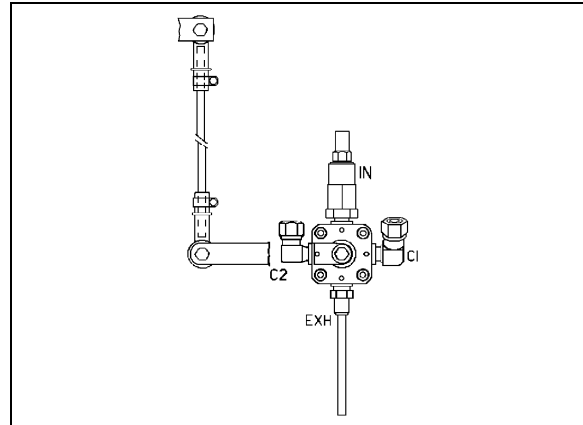

FIGURE 36: FRONT HEIGHT CONTROL VALVE 16100
5. Install the shock absorber as shown in figure 36 with the mounting stud protruding through the hole in the mounting bracket